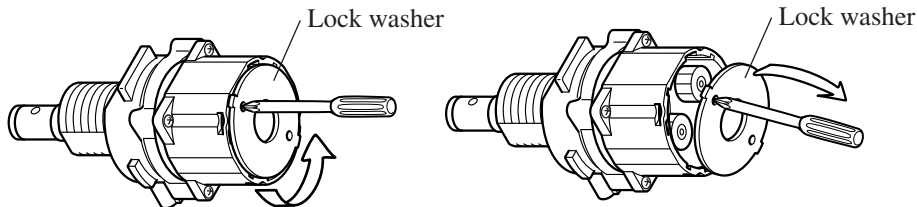

Fig. 3
- (1) Turn the lock washer anti-clockwise with screwdriver hitched into any of its two punched holes. Then, the lock washer can be separated from gear case A by pulling out with the screwdriver as illustrated in Fig. 3.